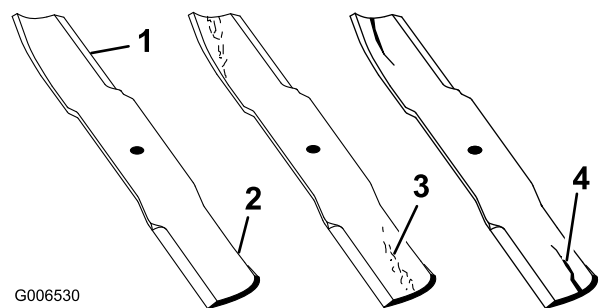

Figure 97
2. Examine the cutting ends of the blade carefully, especially where the flat and curved parts of the blade meet (Figure 97). Since sand and abrasive material can wear away the metal that connects the flat and curved parts of the blade, check the blade before using the mower. If wear is noticed (Figure 97), replace the blade.
If the blade is allowed to wear, a slot will form between the sail and flat part of the blade (Figure 97). Eventually a piece of the blade may break off and be thrown from under the housing, possibly resulting in serious injury to you or bystanders.